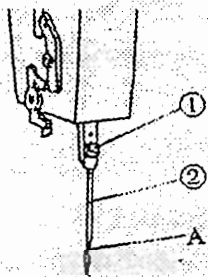
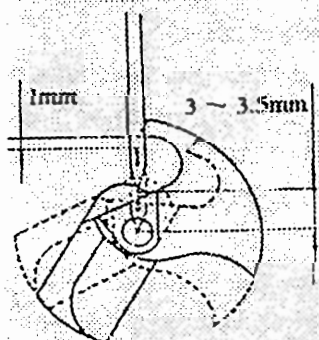

图 6 Fig. 6
图 7 Fig. 7
First set the needle properly, as shown in Fig.6, loosen screw (1) and insert needle (2) up into needle bar as far as it will go with its short groove A of needle facing away from the operator. Securely tighten needle clamping screw (1). Turn the machine pulley until the needle bar moves down to its lowest position. When the needle bar is in this position, needle point should be at the centre of the looper shaft, as shown in Fig.7. Turn the machine pulley to raise the needle bar about 3-3.5mm from the lowest position, point of looper should reach the centre line of needle. The point of the looper should be about 1mm above the top of the needle eye.
首先正确装好机针，见图 6。旋松螺钉(1)，将机针(2)插入针夹孔直到孔底，机针的短槽 A 背向操作者，然后旋紧螺钉(1)。此时将针杆运动至最低位置时，针尖应对准勾针轴中心。机针和勾针的相对位置见图 7，针尖对准勾针轴的中心，机针从最下点上升 3~3.5 毫米，勾针的尖头刚好到达机针中心，而勾针尖位于针上边距离为 1 毫米。